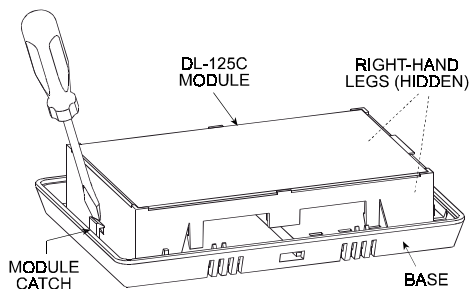

Figure 3. Separating the Module from the Base
- B. Insert a screwdriver blade where shown in Figure 3. Dislodge the left side of the module, swing it up and disengage the two right hand legs from their seats. The module may now be detached from the base